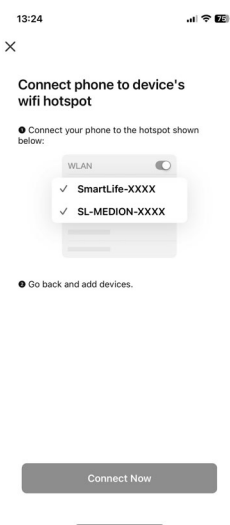

Fig. 7
- ▶ Connect your smartphone or tablet to the WLAN hotspot of the robot vacuum and mop (Fig. 7).